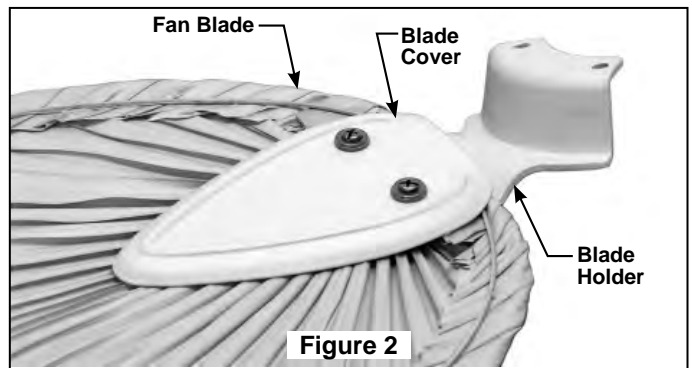

Figure 2
6. While pulling up on the hanger ball, securely tighten the two 3/16-24 x 3/8" setscrews in the downrod support. Slide the Motor Coupling Cover down. (Figures 2 & 3)
1. Using the  $\frac{3}{8}$ " x 2" lag bolt and flat washer, attach safety cable to ceiling joist or wood structural member. The lag bolt will pass through the flat washer, safety cable loop, and into the building structure (Figure 2). You will first drill a  $\frac{1}{4}$ " pilot hole into the building structure to prevent splitting or cracking.
**NOTE:** Ceiling support cable cannot be secured to junction box only, it must be directly secured to ceiling joist or structural member using the  $\frac{3}{8}$ " x 2" lag bolt and flat washer. (Figure 2)
4. Tighten screws with a screwdriver provided, don't over-tighten. (Figure 2)